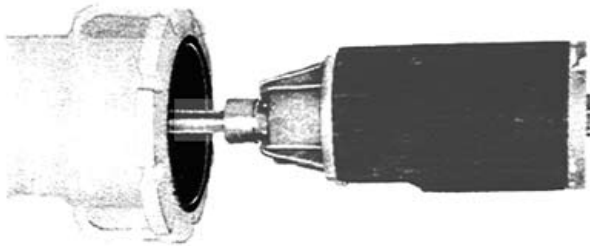

FIGURE 15
2. Attach stopper (by-pass or solid) to inserting bar of stopping machine. **Figure 15.**